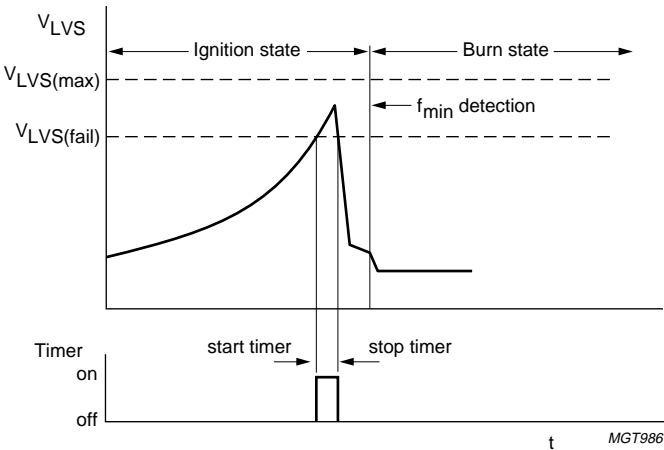

Fig.5 Normal ignition behaviour.
**Ignition state (see Fig.5)**
**Burn state (see Fig.5)**